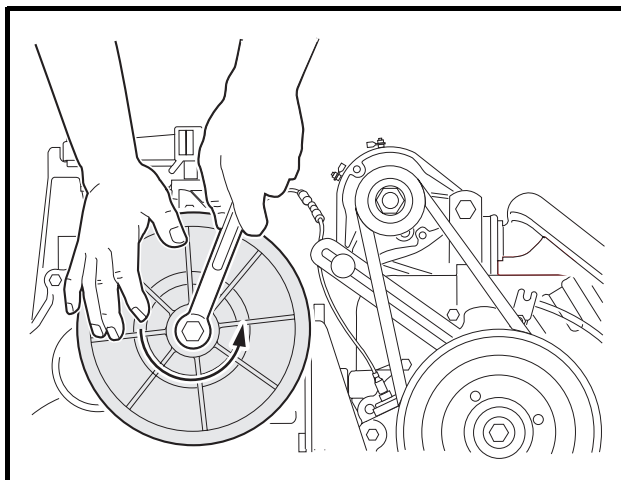

Figure 19-30 Driven Clutch
17. Remove the driven clutch retaining bolt and remove the driven clutch from the unitized transaxle (**Figure 19-30, Page 19-12**).